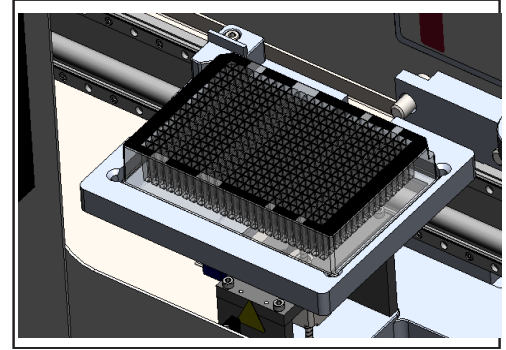

Figure 5. Placing Reagent Plate onto the X-plate
**Step 4.** Insert the Reagent plate onto BioQule™ Plate, as shown in Figure 5.